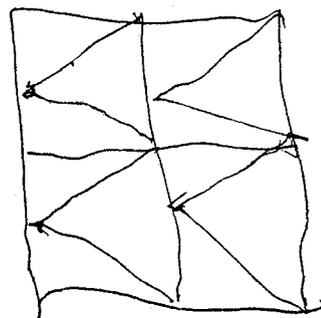

Figure 8
**Degenkolb:** That's K-bracing, or chevron bracing. Figure 8 comes from the K-brace bridge trusses.
**Scott:** In Figure 8 they are pointing sideways, the apex of the triangle is pointing to the side instead of pointing up.